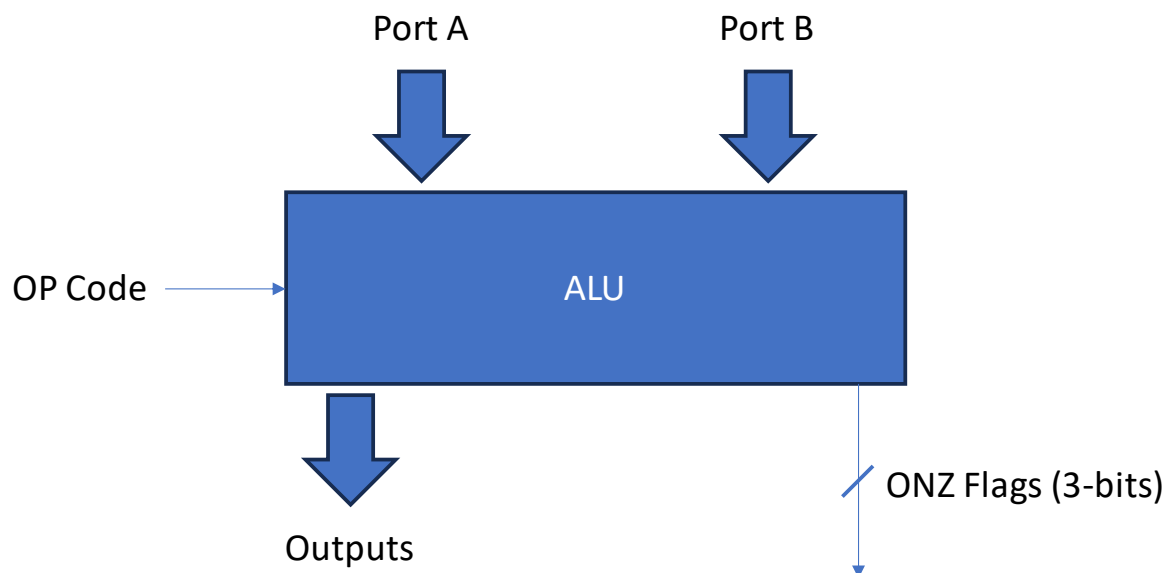

FIGURE 1.1. ALU SCHEMATIC.
1) Build an RTL model of the ALU. The definition of the module is given in the file `ALU.sv`. The ALU should use 2's complement arithmetic. The implementation has to follow the schematic shown in figure 1.1.